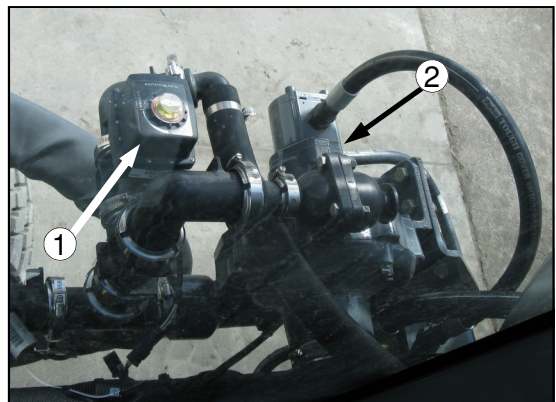
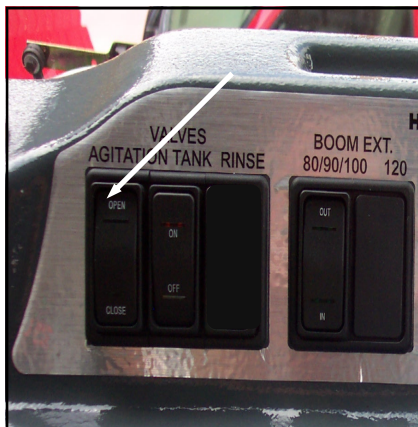

FIG. 4.53-3
FIG 4.53-4
AGITATION– The speed of the sparge agitation system of the stainless steel tank is controlled by a variable flow solution valve (fig. 4.53-3, item 1) mounted on the solution pump (fig. 4.53-3, item 2). The agitation switch (fig. 4.53-4) on the right hand console controls the rate of flow through the sparge system.